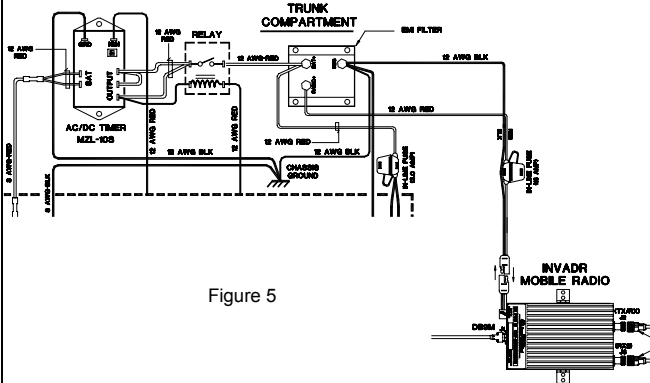

Figure 5
**Step 1** Secure the EMI Filter in the trunk compartment of the vehicle (see Fig. 5) near radio mounting location.